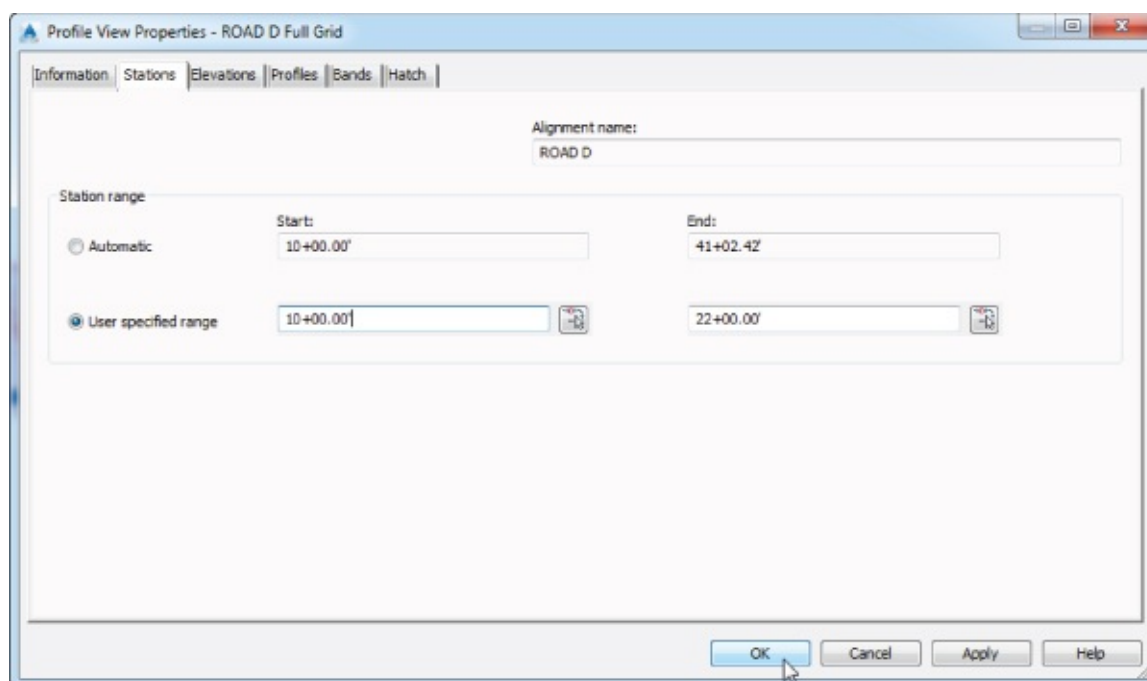

Figure 7.50 Adjusting the end station values for ROAD D
4. On the Stations tab, click the User Specified Range radio button, and set the value of the end station to **2200** (or **670** for metric users), as shown in Figure 7.50. Note that you do not need to type the + symbol.